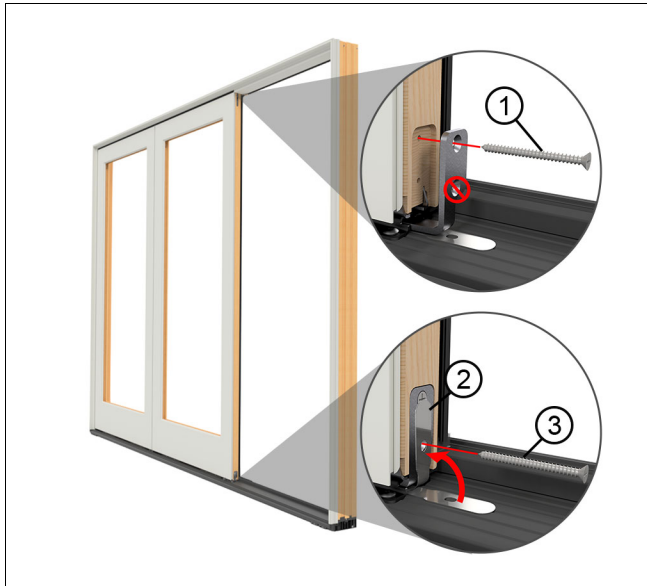

Figure 67
14. Install the sill to panel bracket. Slide the bracket under the sill bracket (attached to the sill). Then fasten to the stationary panel through the top screw hole with #8 x 2" screws. Bend the panel strap up and fasten using the bottom screw on the sill bracket. See Figure 67.